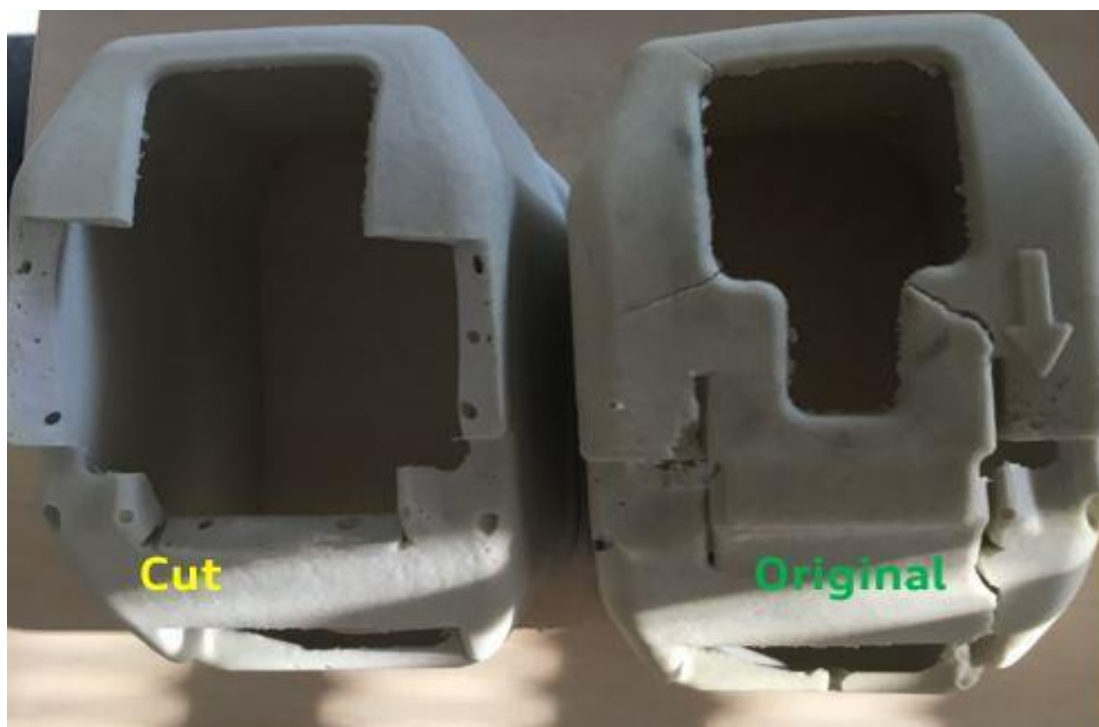

Figure 4. Modified and original insulation.
3. Carefully remove the foam insulation from the selector lever control module and carefully modify the insulation as shown below with scissors or a sharp knife (Figure 4 and Figure 5).